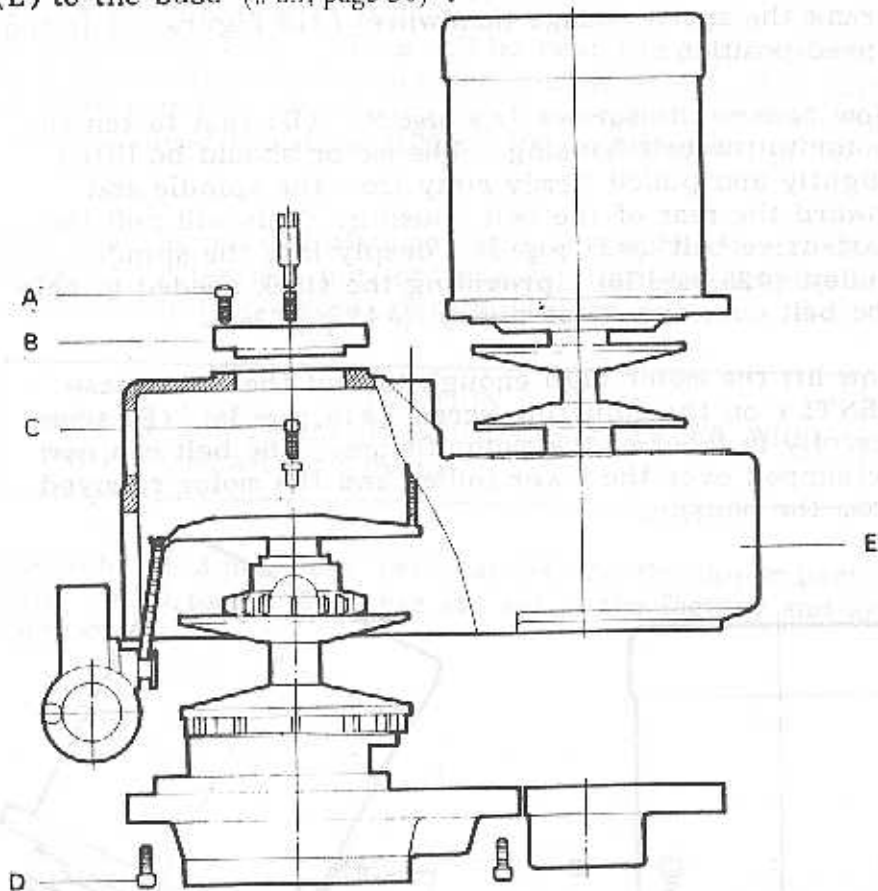

Figure 11. Removing the Vari-Drive Belt.
### CHANGING VARI-DRIVE BELT (Figure 11)
Complete the previous procedures for removing the motor, then remove the three screws (#1, page 36) (A. Fig. 11) and lift out the top bearing cap (#13, page 34) (B). Looking down inside of the housing, locate and remove two socket head cap screws (#17, page 36) and sleeves (#19, page 36) (C). Next, remove the six screws (#56, page 36). (D), then holding the belt housing (E) to the base (#63, page 36).